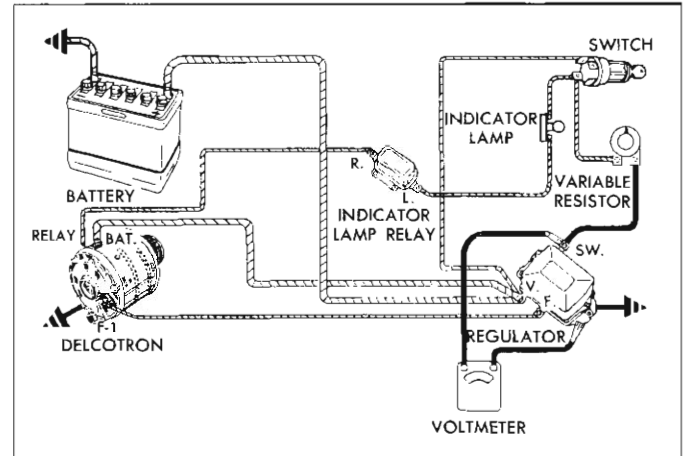

Fig. 17—Checking Field Relay Unit Closing Voltage
1. Make connections as shown in Figure 17, using a 50 ohm variable resistor.